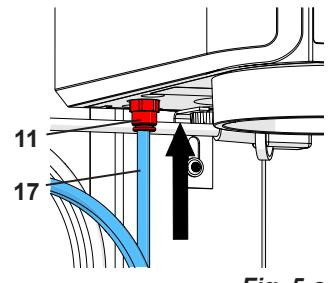

Fig. 5-a
In previous devices, the inlet filter (12) was situated outside the device (Fig. 5-b). In these cases, push the compressed air hose (17) onto the inlet filter (12). There will be a slight resistance to overcome when attaching.